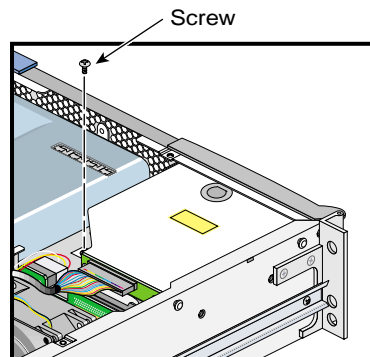

Figure 5 Securing DVD-ROM
10. Secure the DVD-ROM drive to the chassis by installing one 6-32 x 3/8-in. pan head TORX screw with washer, as shown in Figure 5.